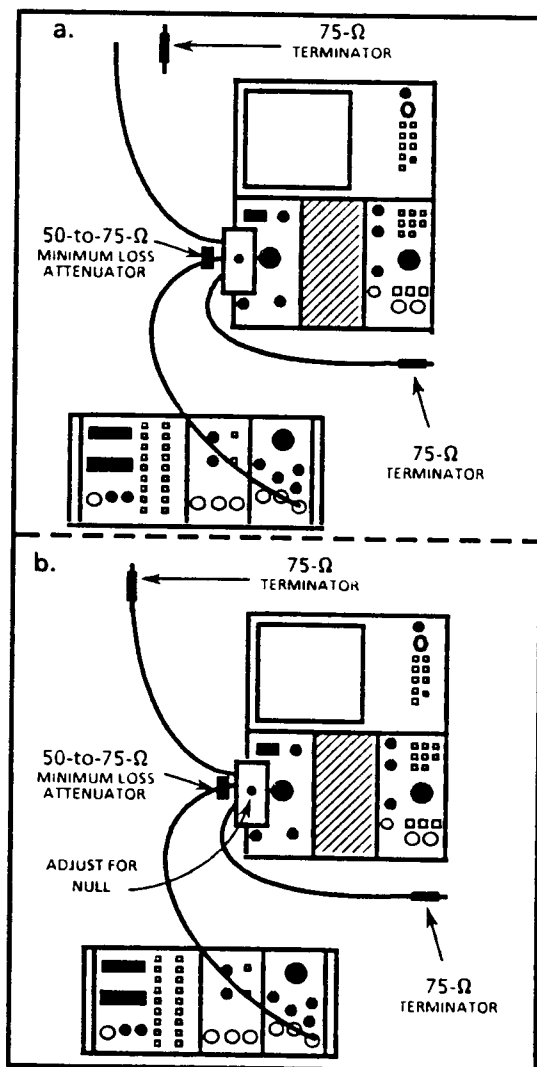

Fig. 5-8. Return-Loss Bridge Set-up:
- Connect the output from the Leveled Sine-Wave Generator, through a 50 Ω precision cable and 50-to-75 Ω minimum loss attenuator, to the input of the Return Loss Bridge. Set the Leveled Sine-Wave Generator to 50 kHz. Connect the output of the Bridge to the Test Oscilloscope and set the amplitude of the display to 500 mV p-p with the terminator removed from the Unknown arm of the Bridge. See Fig. 5-8.